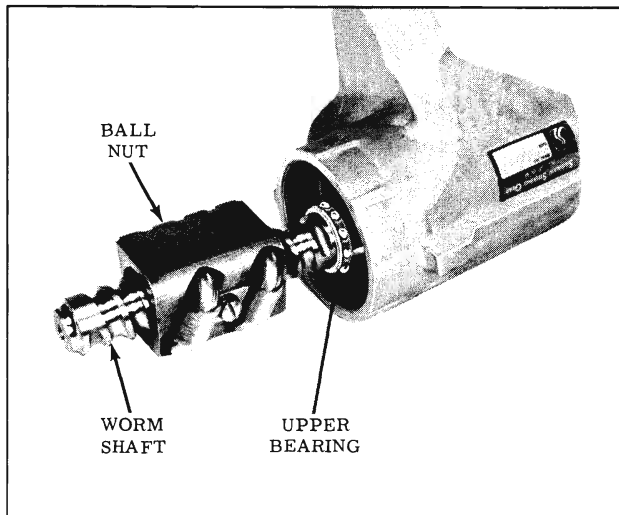

Fig. 4-209 Removing Worm Shaft
6. Remove worm shaft and ball nut assembly from housing (Fig. 4-209). Remove upper ball bearing.